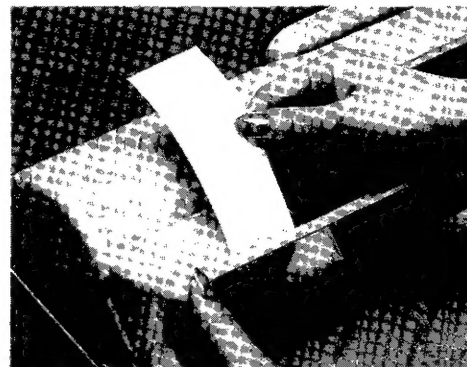

Fig 1-5.
3. Pass the leading edge of the paper through the paper outlet in the printer cover (Fig. 1-5), and close the cover.